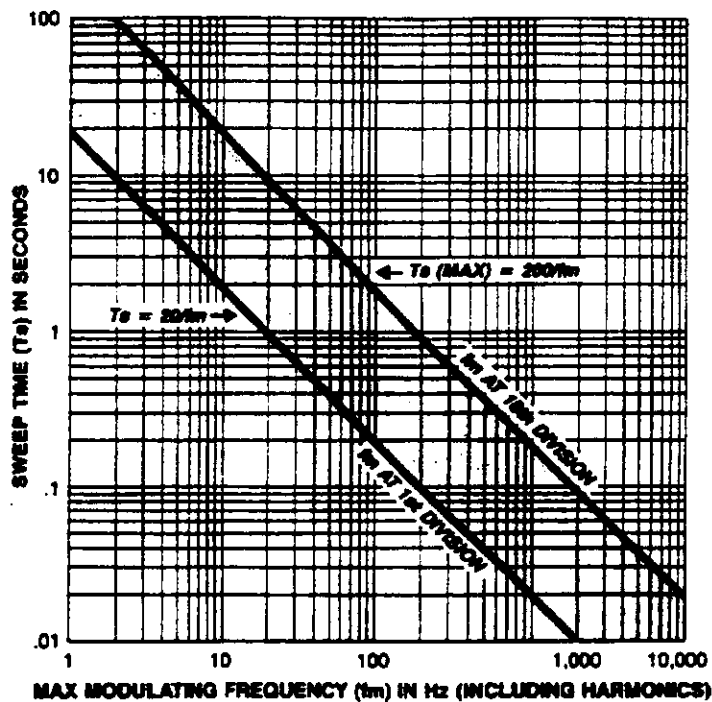

Figure 2-18
5. See Figure 2-18, which shows maximum modulation frequency (f_m) in Hz versus sweep time (T_s) in seconds. Set the sweep time less than $T_s(\text{max})$ for that maximum modulation frequency (f_m) including the harmonics of the signal. The upper curve relates the sweep time to the maximum modulation frequency that can be observed (that is, the modulation frequency represented by the right edge of the graticule). The lower curve represents the modulation frequency one division from the left side of the graticule.